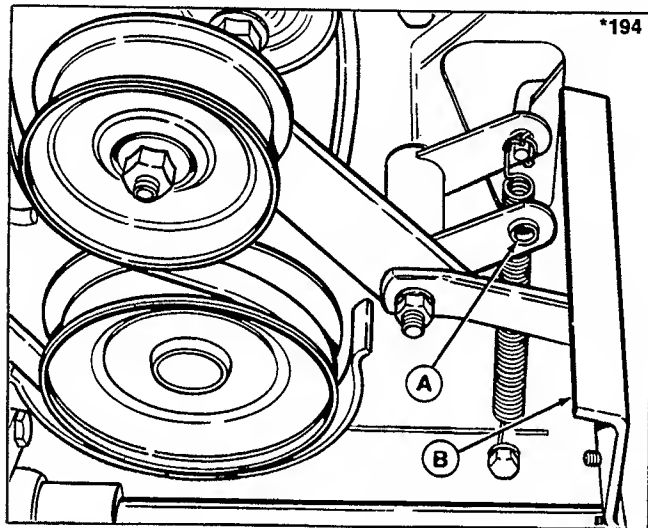
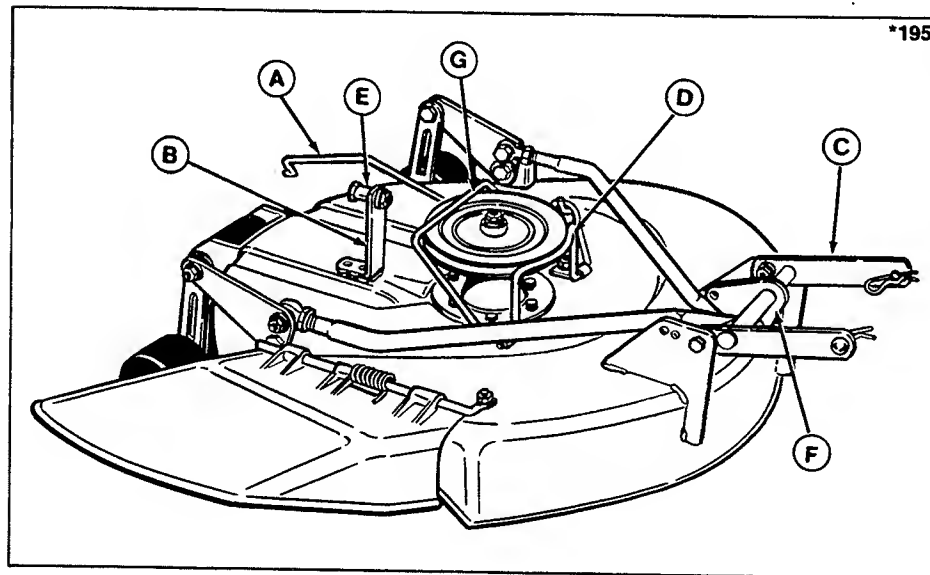

Figure 24. PTO Linkage
Figure 25. 26 " & 30" Mower
8. Push the brake (F, figure 21) away from the pulleys so the brake rod (D) will clear the tire and left side plate. Insert the brake rod just inside the left side plate and insert the end of rod into PTO linkage shown in figure 24. (Engage the PTO lever to change position of the linkage.) Secure the brake rod with a spring clip (insert spring clip from rear).
1. Remove the spring clip from the brake rod and remove end of rod from the PTO linkage (figure 24). Push brake rod forward to clear left side plate and tire and swing rod out toward left side.
Loosen the hardware which secures the pulley belt guard (G, figure 25). The guard must be loose to install the belt.
6. Position the mower under the rider so that the mower bracket (B) is behind the rider upstop bracket.
7. Push the brake (D, figure 25) away from the pulley and slip the belt into the pulley. Be sure there are no twists in the belt. Tighten the belt guard (G, figure 25) hardware securely.
10. Apply a little grease to the inside of the spacer (E, figure 25) and place the spacer on the bolt. Install the bolt thru the upstop bracket and mower bracket from the front. Be sure spacer is inside the upstop bracket. Install the locknut on the bolt. Tighten securely.
11. Push the brake (D, figure 25) away from the pulley to insert the brake rod (A) just inside the left side plate. Insert the rod into the PTO linkage shown in figure 24. Insert the spring clip into the rod from the rear.
5. Loosen the hardware that secures the mower pulley belt guide (G, figure 25). Push the brake (D) away from the pulley and slip the belt out. Push the mower to one side and slip belt between mower bracket (B) and upstop bracket.
6. Remove the spring clip from the rear of the brake rod (A) and pull rod out of the linkage.
8. The mower must be lifted slightly to remove the lift rod from the mower flange (F, figure 25). One way is to insert a wood handle under edge of mower and lift up in a lever action. Pull lift rod out of the hole.
4. Loosen the idler pulley (K) mounting hardware. If pulley is removed, remember the position of the washers and belt stop (M).
5. On the 36 inch mower, loosen the left arbor pulley belt stop. On 26 inch or 30 inch mower, loosen the belt guide (G, figure 25).